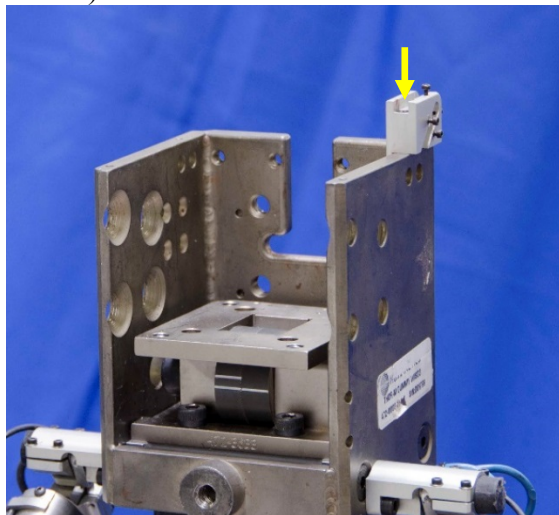

Figure 6-32. Secure T1 accelerometer mount assembly to upper spinebox
- 6.2.2.26 Secure the T1 Accelerometer Mount (472-3858) to the upper left rear top edge of the Upper Thoracic Spinebox Weldment (472-3620) with one M3 x 0.5 x 14 SHCS (Figure 6-32).